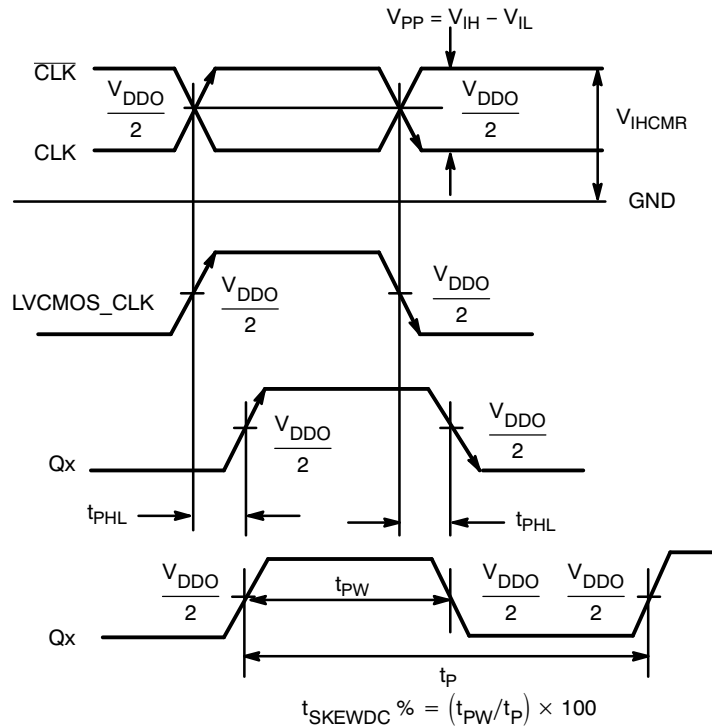

Figure 4. AC Reference Measurement
5. Outputs loaded with $50\ \Omega$ to V_{TT} ($V_{DDO}/2$); see Figure 5. CLOCK input with 50% duty cycle. Measured at CLK/\overline{CLK} crosspoint to Qx $V_{DDO}/2$, $CLK\ V_{DDO}/2$ to Qx $V_{DDO}/2$; see Figure 4.